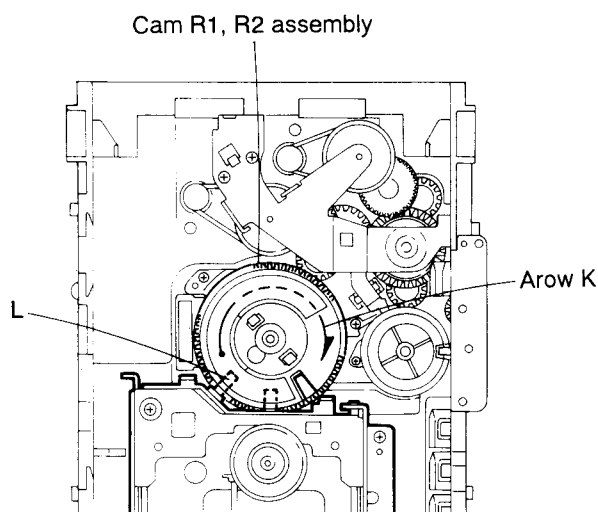

Fig. 2-17
■ Removing the CD mechanism (See Figs. 2-17 and 2-18)
1. For dismantling only the CD mechanism without removing the CD mechanism assembly, align the shaft (L) of the CD mechanism assembly to the position shown in Fig. 2-17 while turning the cam R1 and R2 assembly in the arrow direction (K).